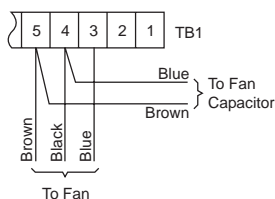

Figure 4.2.51: Heatsink Fan Capacitor Connections
4. Thread the fan leads back through the grommet and tighten grommet securely. Install the fan and capacitor leads in TB1 according to Figure 4.2.51. Tighten the terminal screws and torque to 18 lb-in (2 N•m).